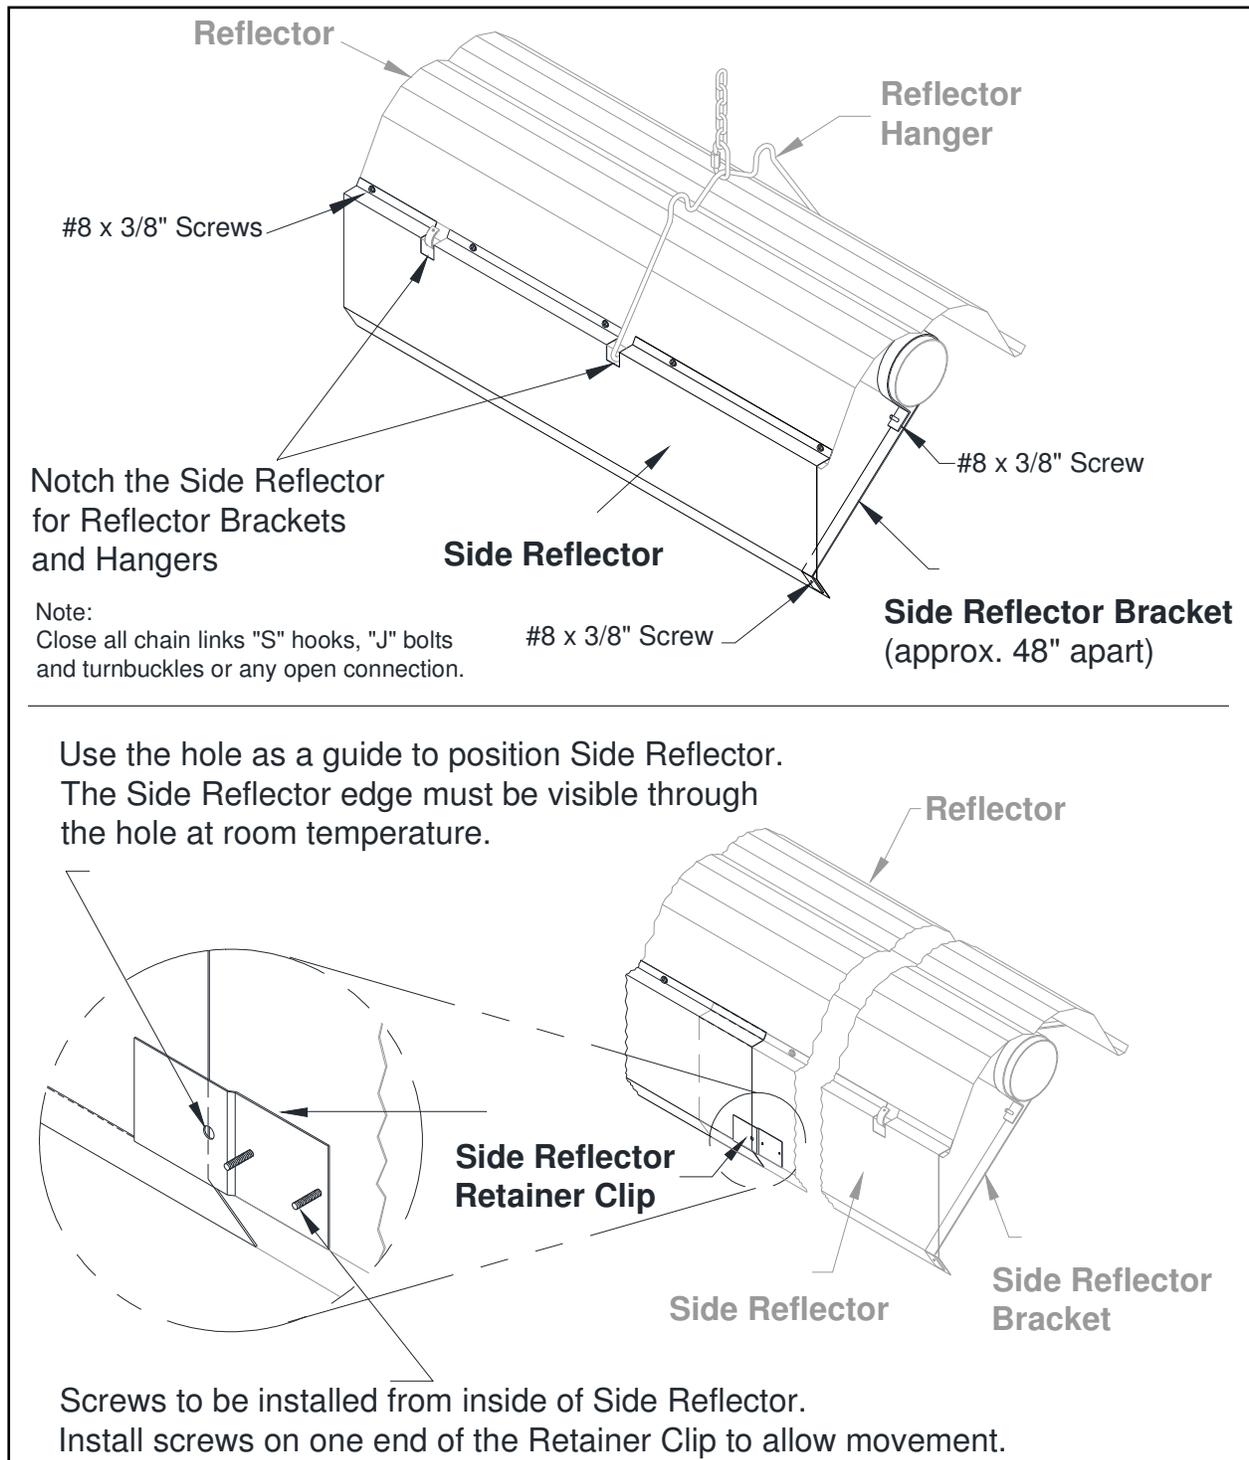

Figure 17: Side Shield Overlap
- Side shields are 124" long. Fasten one side shield per reflector with #8 x 3/8" screws. Use three side shield brackets per side shield. Space about 48" apart, refer to Figure 17.